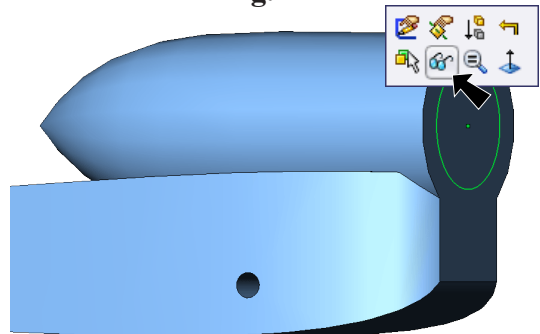

Fig. 42
Step 21. Rotate view as shown in **Fig. 42**. To rotate view, use Left arrow key.
Step 22. **Hide Sketch of the Cartridge Hole Feature**. To hide sketch, click sketch in drawing and click **Hide** in the menu, **Fig. 42**.